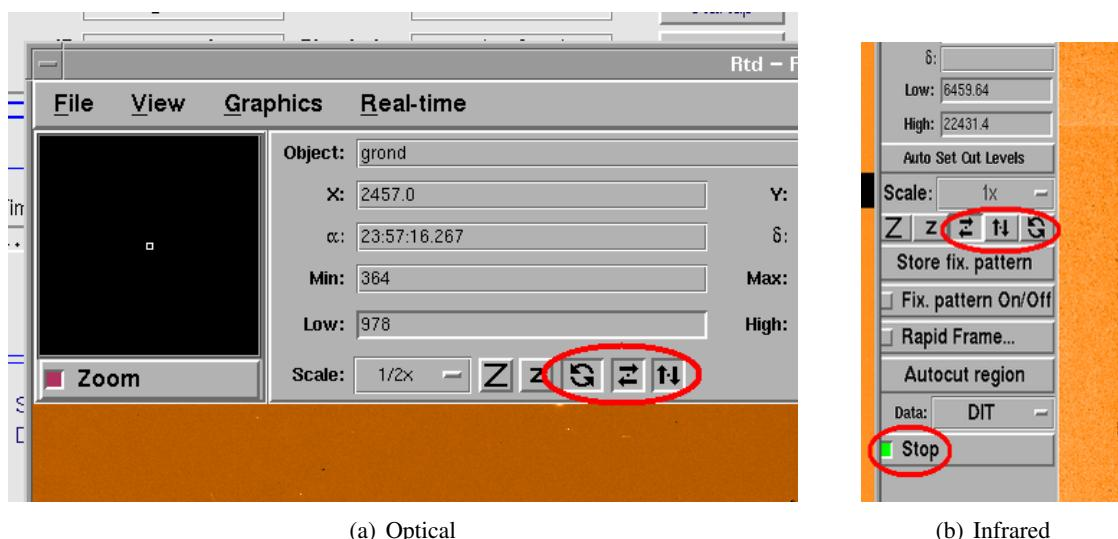

Figure 2.10: Correct sky orientation of the GROND displays. The infrared one is receiving data in real time (green checkbox).
- c. Check that image is flipped along both axes and rotated (see Fig. 2.10(a), p. 32).
- The left column should have a green button with text Stop (see Fig. 2.10(b), p. 32).
- g. Check that the image is horizontally flipped (see Fig. 2.10(b), p. 32).